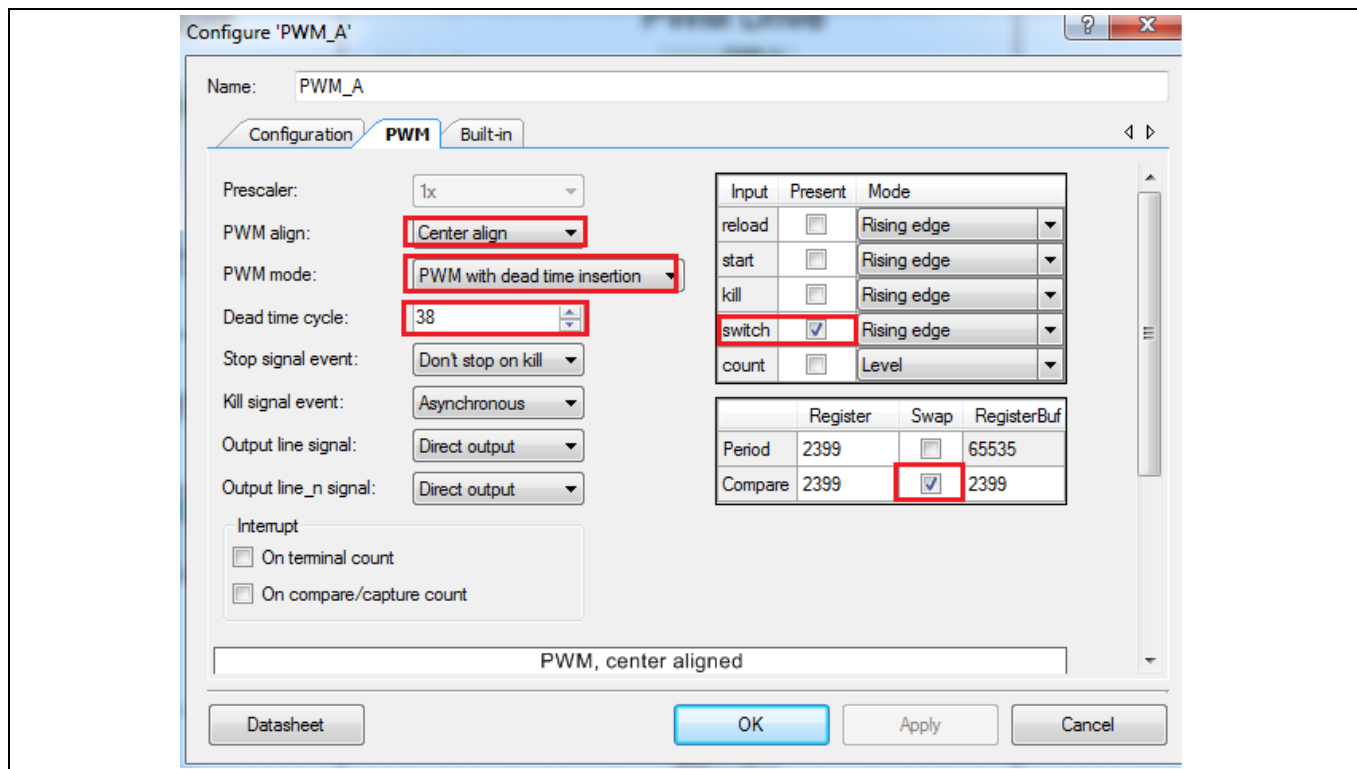

Figure 34 PWM_A Configuration Window
The PWM interrupt is triggered on the terminal count of PWM_D. The result is that the ISR controls the PWM duty cycle on every cycle by updating the PWM compare buffer register (**Figure 34**). The register must be updated before the next underflow event occurs, or the duty cycle will be incorrect, which in turn causes an increased motor noise.
Figure 34 shows the configuration for PMW_A (phase A); it applies to all three PWM Components:
- check the “switch on rising edge” and “swap” boxes (Figure 34)